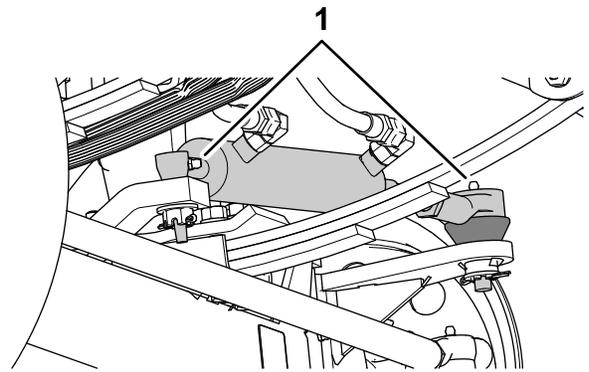
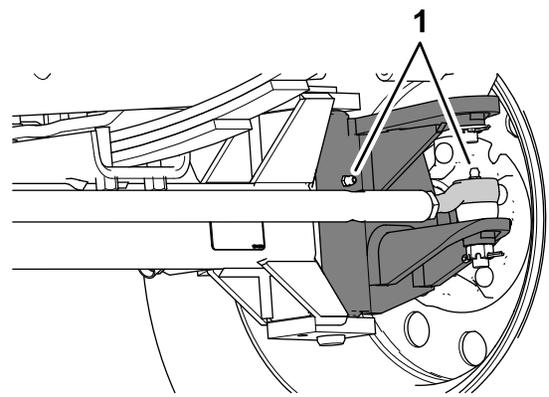

Figure 68
Figure 69
1. Wipe the grease fittings clean (Figure 68 and Figure 69).
2. Pump grease into the grease fittings (Figure 68 and Figure 69).
Note: The grease fittings positions are illustrated in Figure 68.